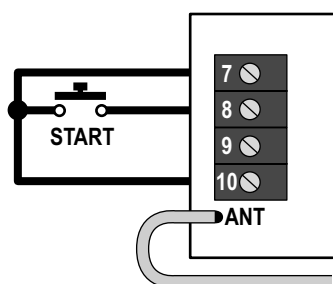

Fig.2
1. Connect the button as shown in figure 2
2. Connect an N.A. button, as in figure 2